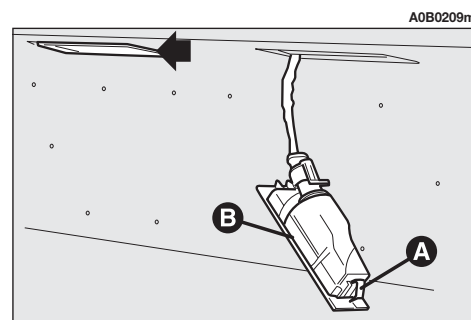

fig. 46
– Remove the number plate light unit using a flat screwdriver protected by a soft cloth on the stopper (**A-fig. 46**).
– Remove the unit (**B-fig. 46**).
– Refit the complete unit (**B-fig. 46**) firstly inserting the catches and then pressing in correspondence with the stopper (**A-fig. 46**).